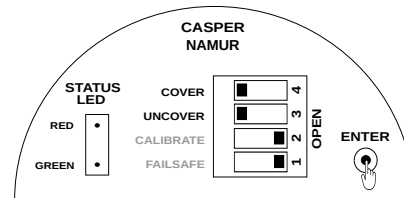

Figure 25: Setting of Low Current Configuration
- Press and Hold the ENTER key, RED Status LED will start blinking as per Figure 25.